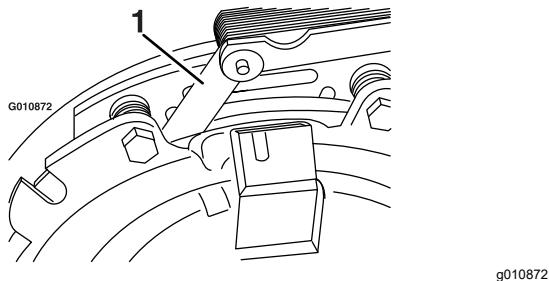
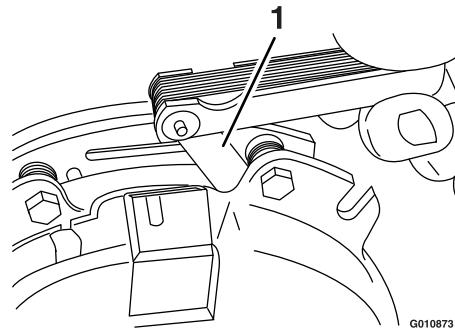

Figure 76
Figure 77
E. Using a 0.25 mm (0.01 inch) thick feeler gauge, verify that a gap is present between the rotor and the armature face on both sides of the brake pole as shown in Figure 76 and Figure 77.